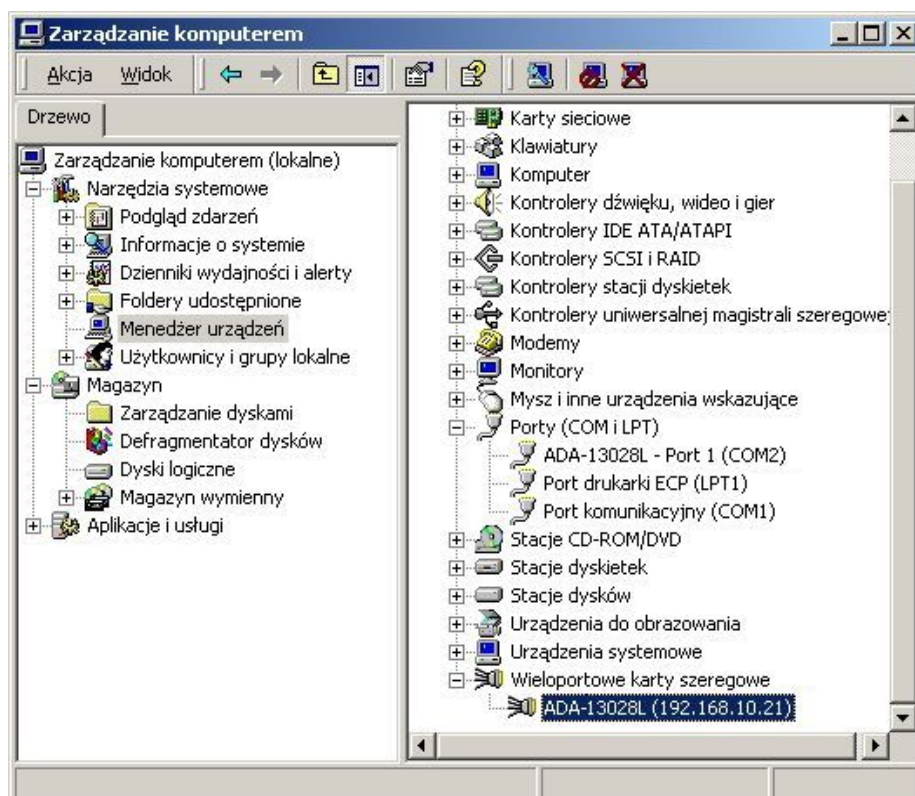

Fig 21. Device view on Windows XP system.
3. Press **[Ports (COM & LPT)]**. On Fig. 21 you can see available serial ports COM1, COM2 and **COM3** marked as **ADA-13028L** which was create after installation of RealPort driver.